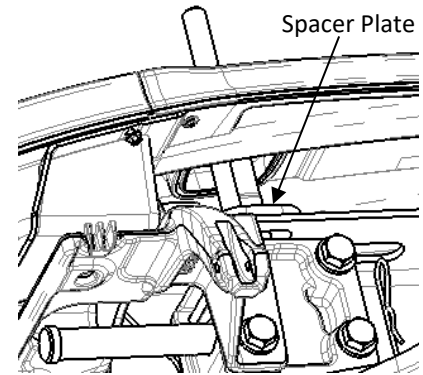

Figure 5: Tow Receiver Mount installation
- If access hole in factory bumper is too small for Spacer Plate to fit- slide it behind bumper before inserting Tow Receiver Mounts (Figure 5).